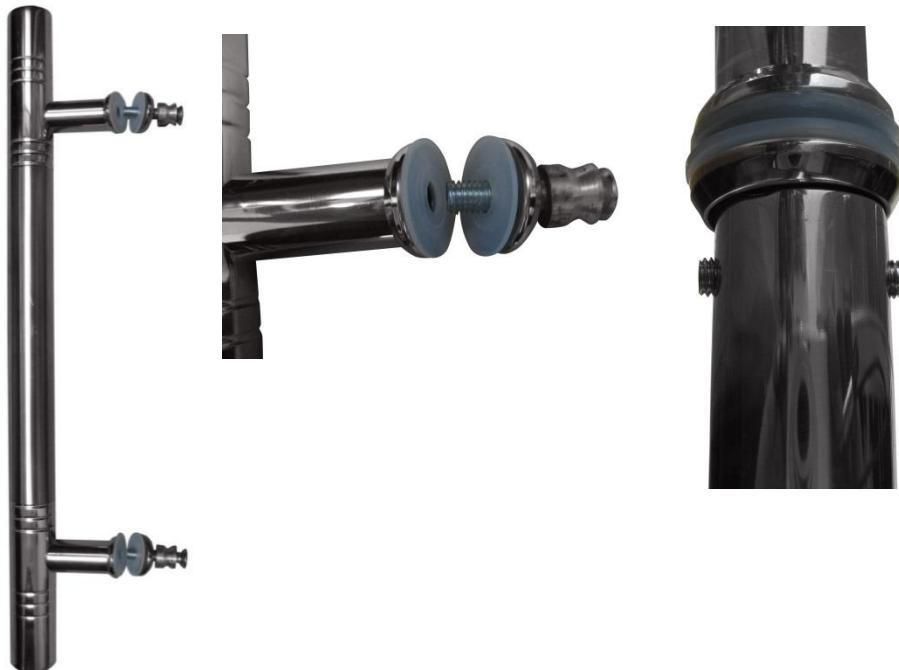

Figure 11
1. The inner and outer door handles need to be mounted to the FRONT GLASS DOOR. According to Figure 11, the FRONT GLASS DOOR must sit between the (2) white washers. The screws are inserted from the